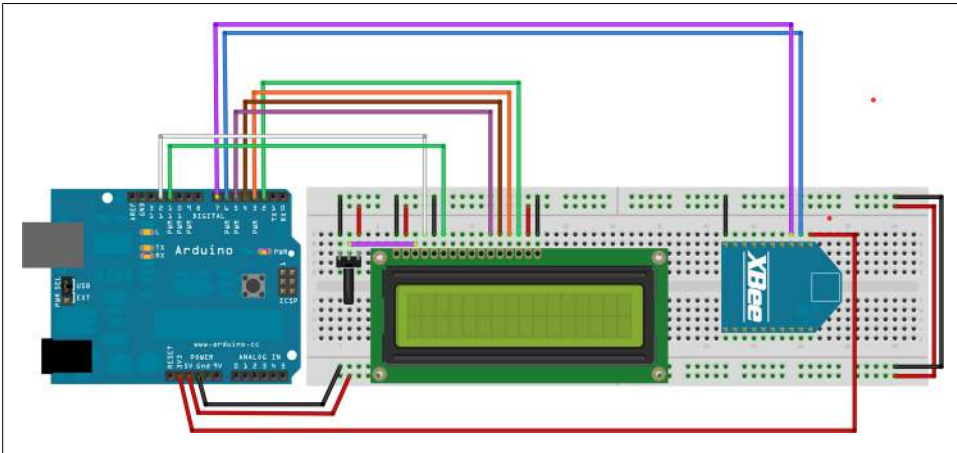
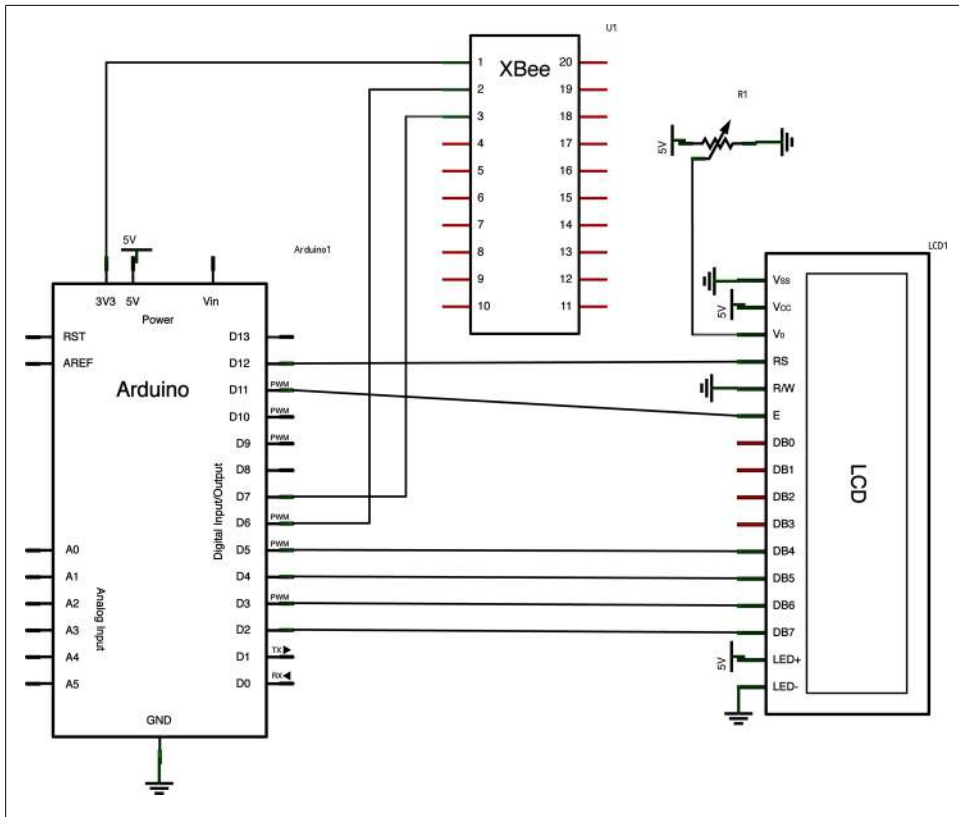

Figure 7-27. Twitter Reader breadboard layout
Figure 7-28. Twitter Reader schematic
6. Hook up the remaining LCD pins as shown in Table 7-1. You can also use the diagram in Figure 7-27 and the schematic in Figure 7-28 as a guide.